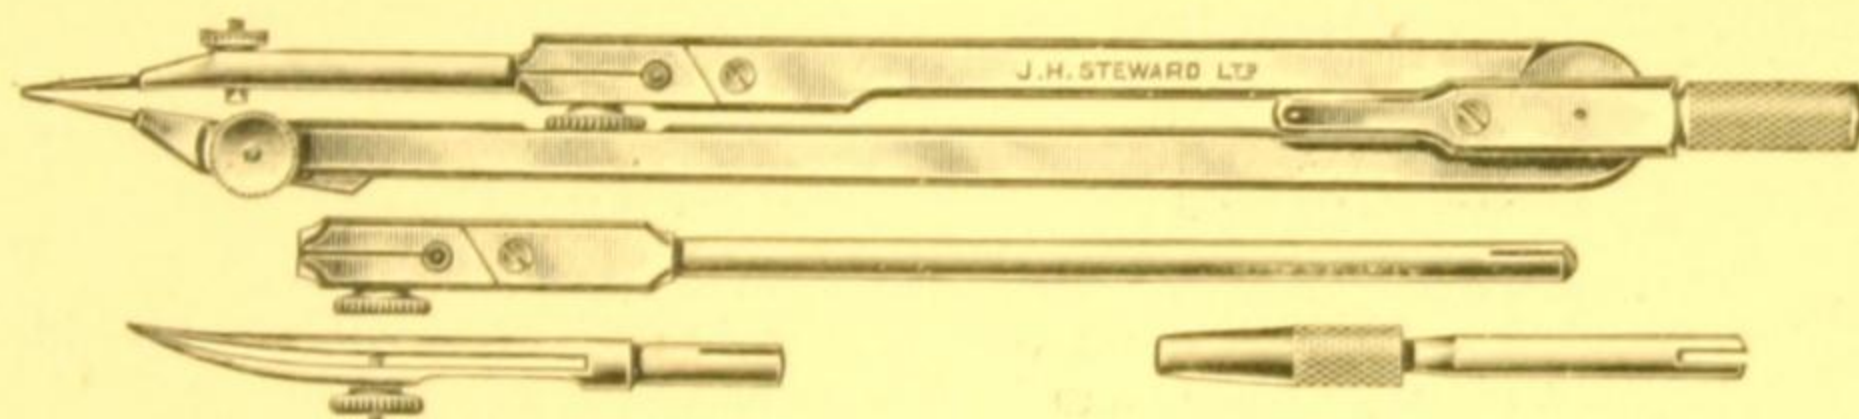

Fig. 176.
- SM 698.—**Half Set**, first grade English machine made electrum instruments consisting of:—6-inch Compass with central guide to head so that handle always remains vertical when legs are opened or closed, double knee joints, reversible needles having shouldered point one end and tapered point the other, pen, pencil and divider legs and lengthening bar. Fig. 176      16 6